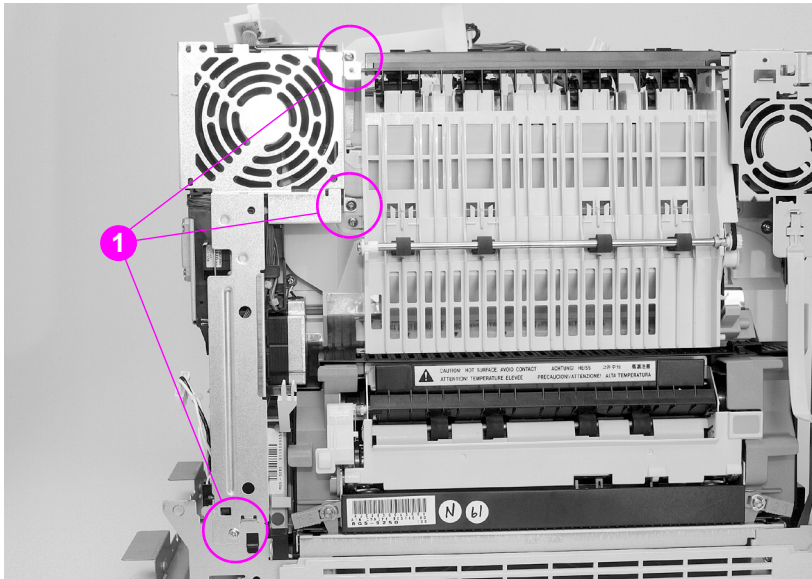

Figure 6-37 Large fan removal and replacement (1 of 2)
- 2 Remove the four screws shown in Figures 6-37 and 6-38 (callout 1) from the large fan housing.